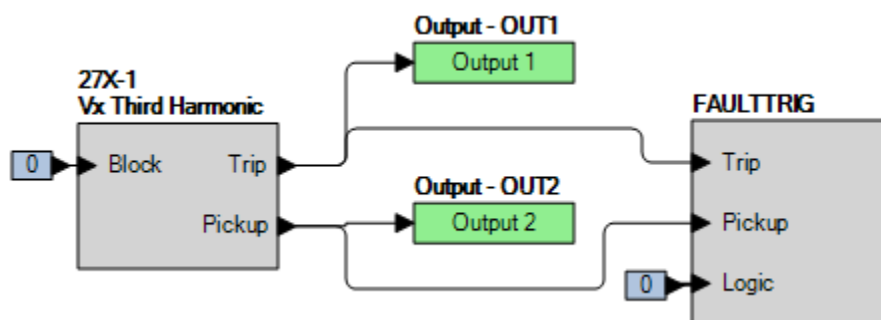

Figure 58-5. BESTlogicPlus Settings (Vx Third Harmonic Mode)
- Step 4: Prepare to monitor the 27X-1 function operation. Operation can be verified by monitoring OUT2 (see Figure 58-5).